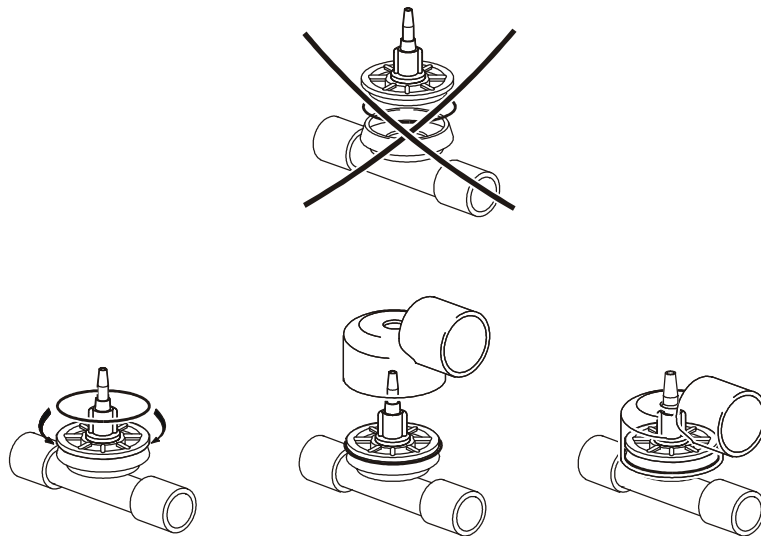

Fig. 3-5 Mounting the O-ring for the PEEP adapter
- Unscrew and remove the complete membrane assembly (1).
- If a PEEP valve is to be used, fit the O-ring seal for the PEEP valve as shown in fig. 3-5.